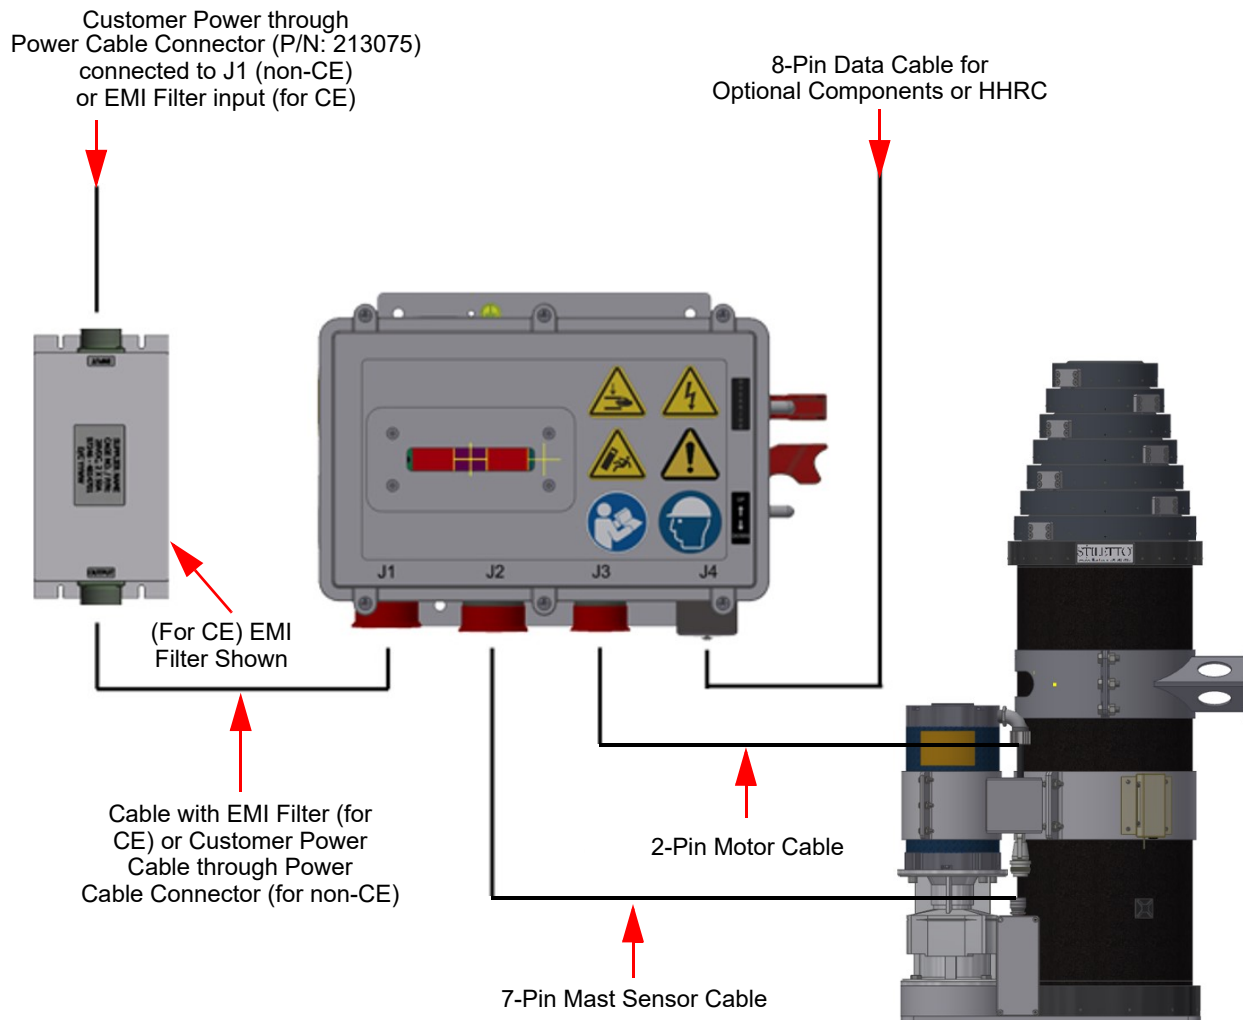
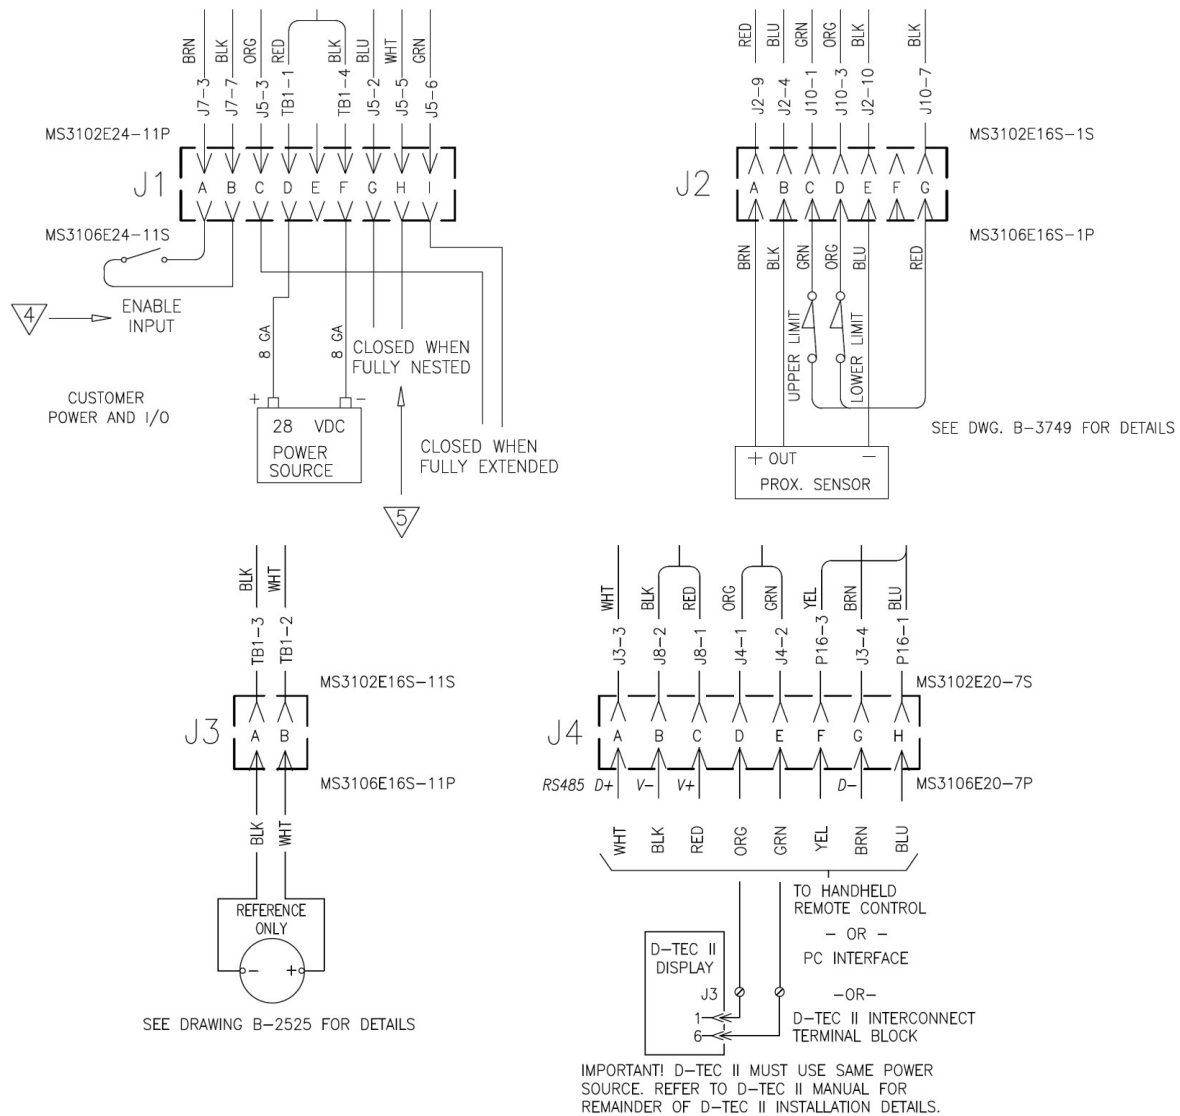

Figure 5-8 Stiletto Wiring (Not to Scale)
Figure 5-9 Control Box Schematic Views (based on WD-46002 Rev 00) [EMI Filter not shown]
1. Refer to Figure 5-8 for an overview of the system wiring, and to Figure 5-9 for the Control Box schematic (EMI filter shown).